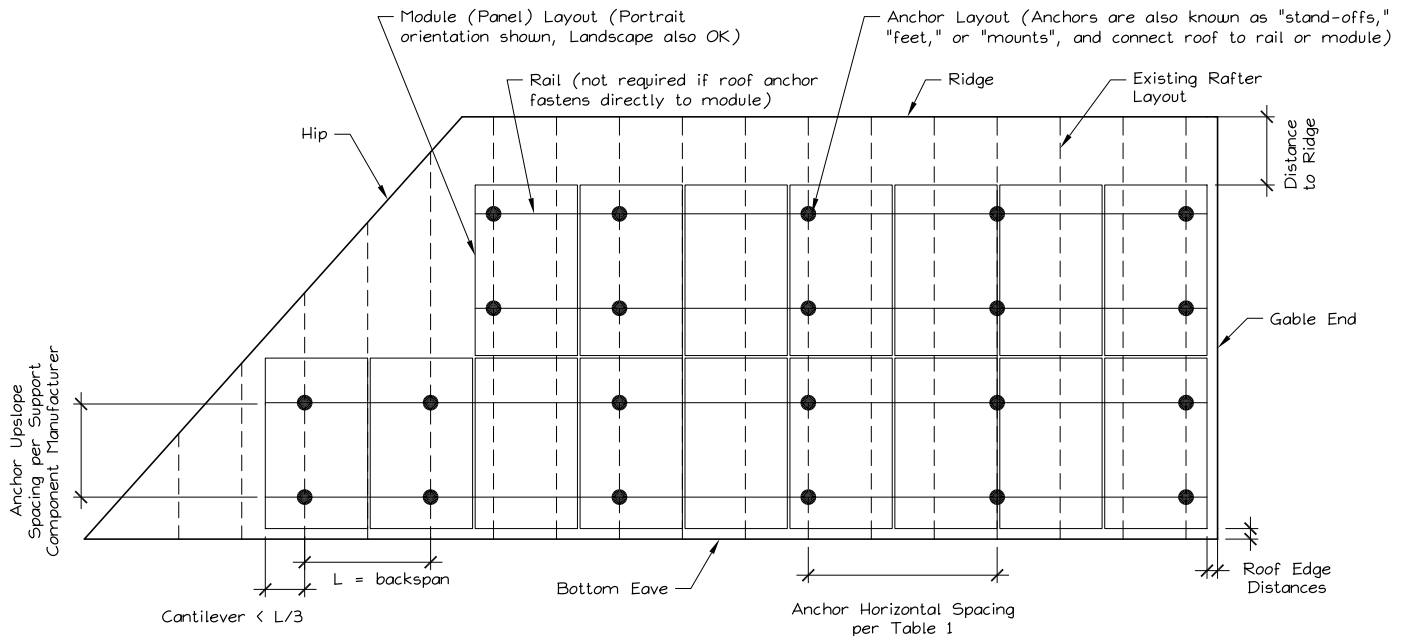

Figure 2. Sample Solar Panel Array and Anchor Layout Diagram (Roof Plan).
E. Is a roof plan of the module and anchor layout attached? (see Figure 2)
1) Proposed anchor horizontal spacing (see Figure 2):
1. Anchors are also known as "stand-offs," "feet," "mounts" or "points of attachment." Horizontal anchor spacing is also known as "cross-slope" or "east-west" anchor spacing (see Figure 2).